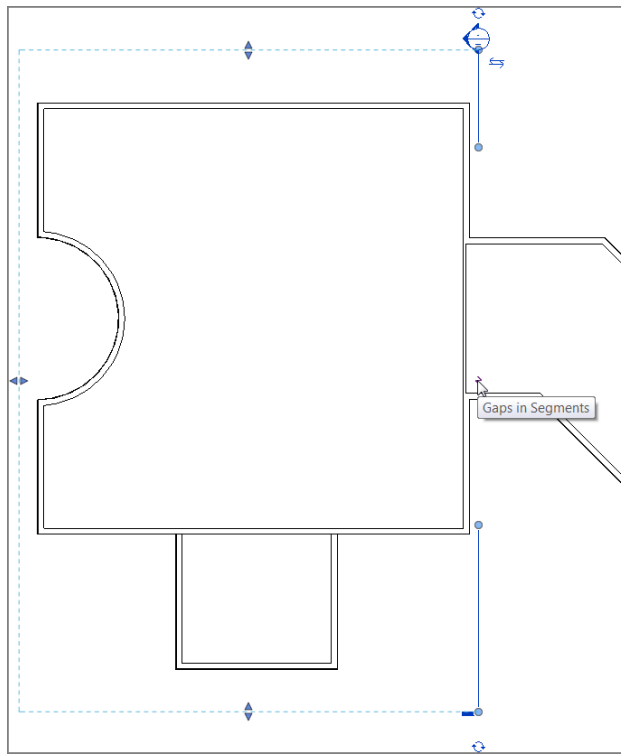

FIGURE 3.36: Adding a gap in the section. You can move your grips to be the same as the figure.
8. With the section still selected, notice the small, blue break icon in the middle of the section (see Figure 3.36). Pick the break line (it's called the Gaps In Segments icon). The section is now broken, and you have grips controlling the ends of the break lines (see Figure 3.36).